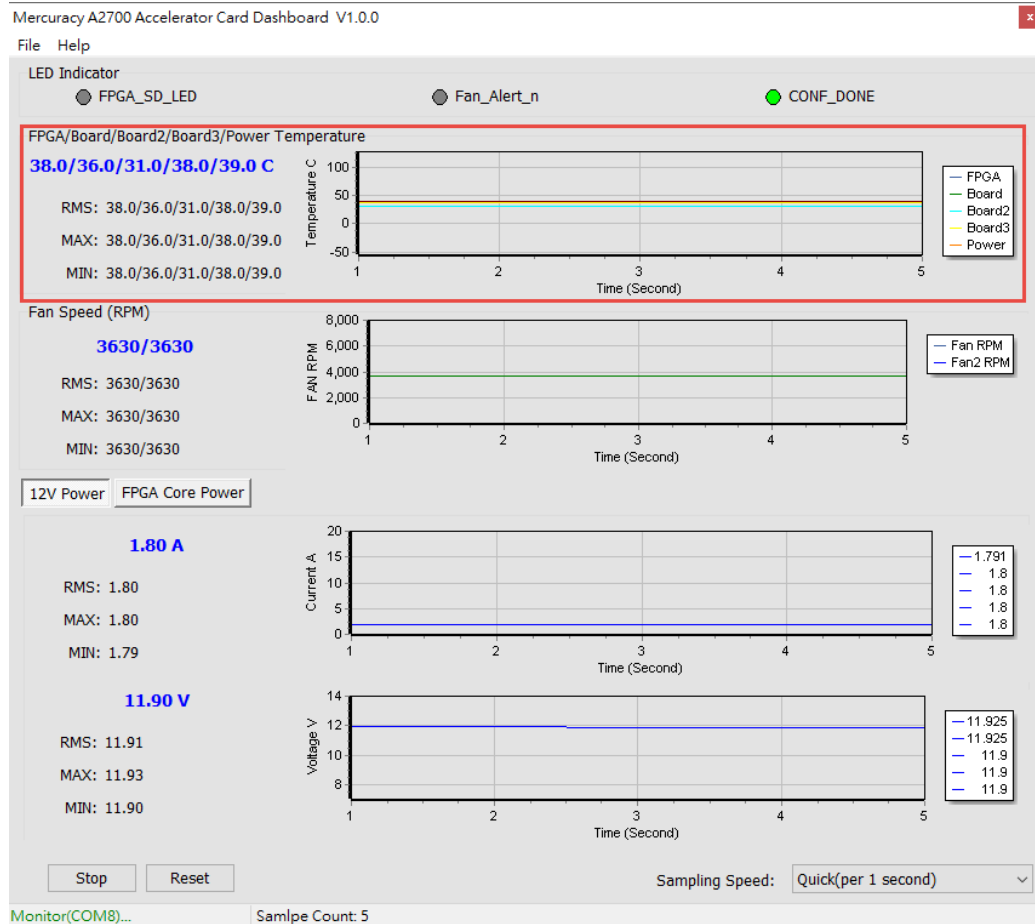

Figure 4-9 Temperature section
- **FPGA/Board/Transceiver Temperature:** The Dashboard GUI will real-time show the Mercury A2700 Accelerator Card's ambient temperature (**Board, Board2 and Board3** data in the GUI) and FPGA and Power transceiver temperature. Users can get the board's temperature status in time. The information will be refreshed per 1 second, and displays through diagram and number, as shown in **Figure 4-9**. **Figure 4-10** shows the location of the two temperature sensors of **Board** and **Board2** on the GUI.